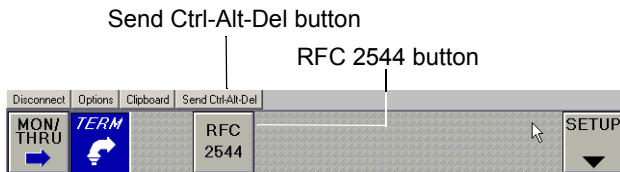

Figure 29 RFC 2544 and Send Ctrl-Alt-Del buttons
- 3 On the main screen of the FST-2802 user interface, select **RFC 2544**, and then immediately select **Send Ctrl-Alt-Del**. See Figure 29.